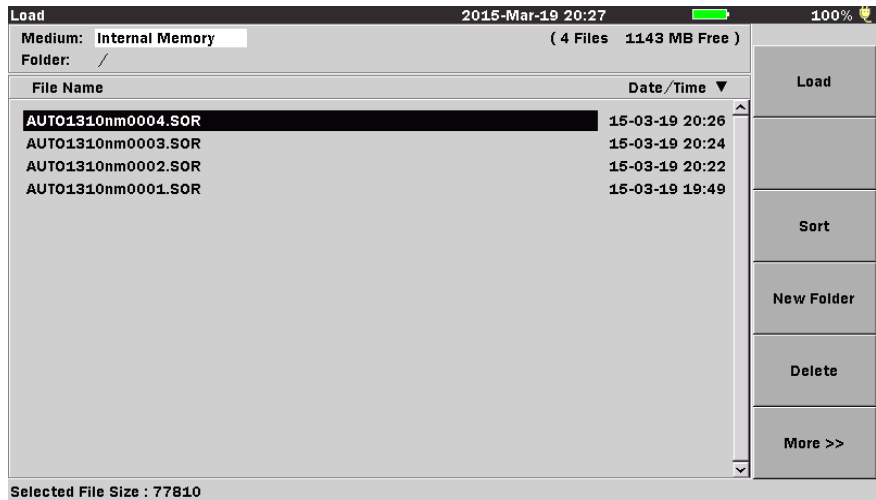

Figure 5-25: Load screen
1. Press the **File key**, the Load screen appears (see Figure 5-25 on page 5-61).
Use either the Load screen (see Figure 5-25 on page 5-61) or the Save screen (see Figure 5-29 on page 5-71) to delete any data files stored in the internal memory